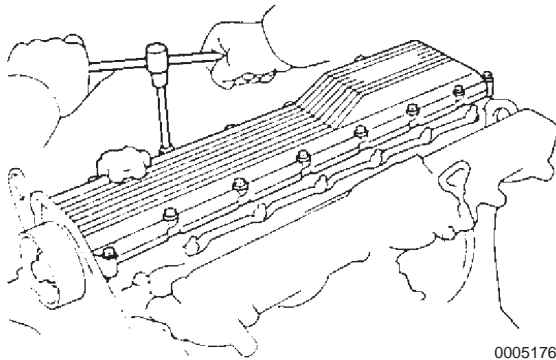

Figure 5-177
8. Install the rocker cover using new seal washers and bolts. Uniformly tighten the bolts in several passes and torque to 65 kgf·cm, 6.37 N·m (56.3 lb-in.) (**Figure 5-177**).